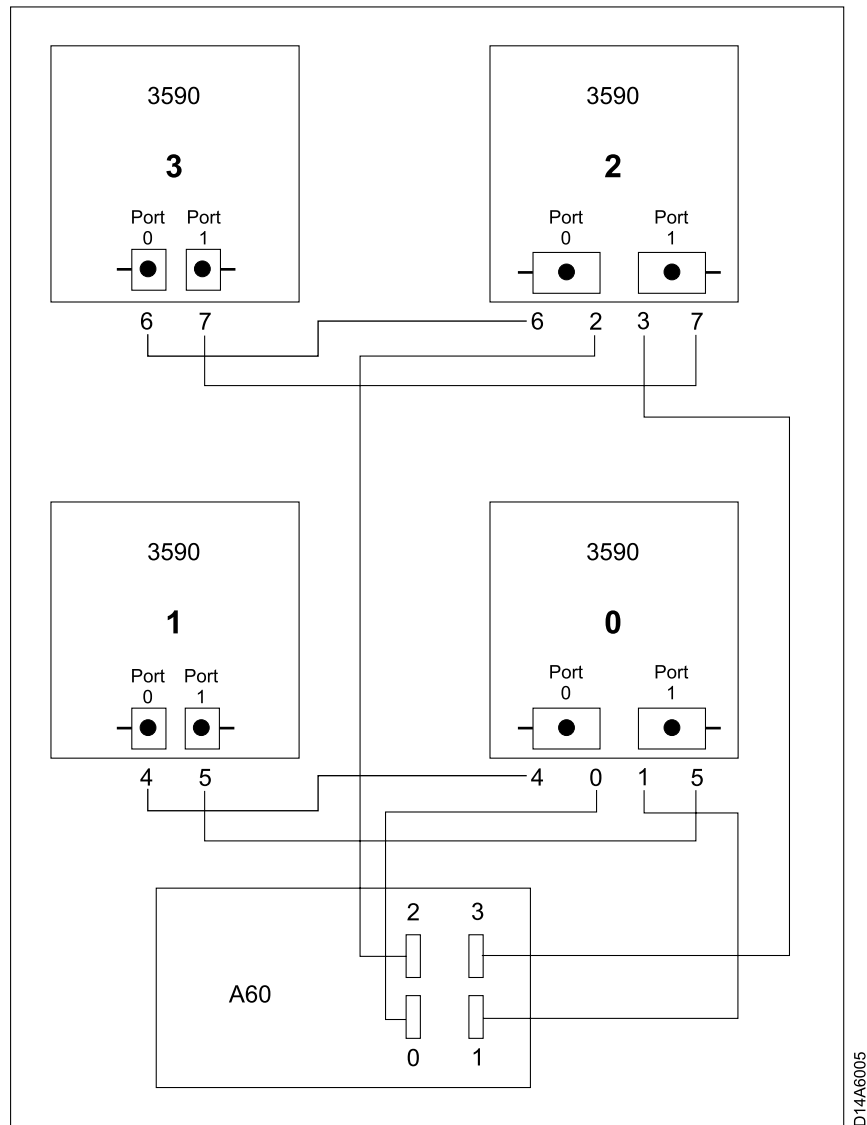
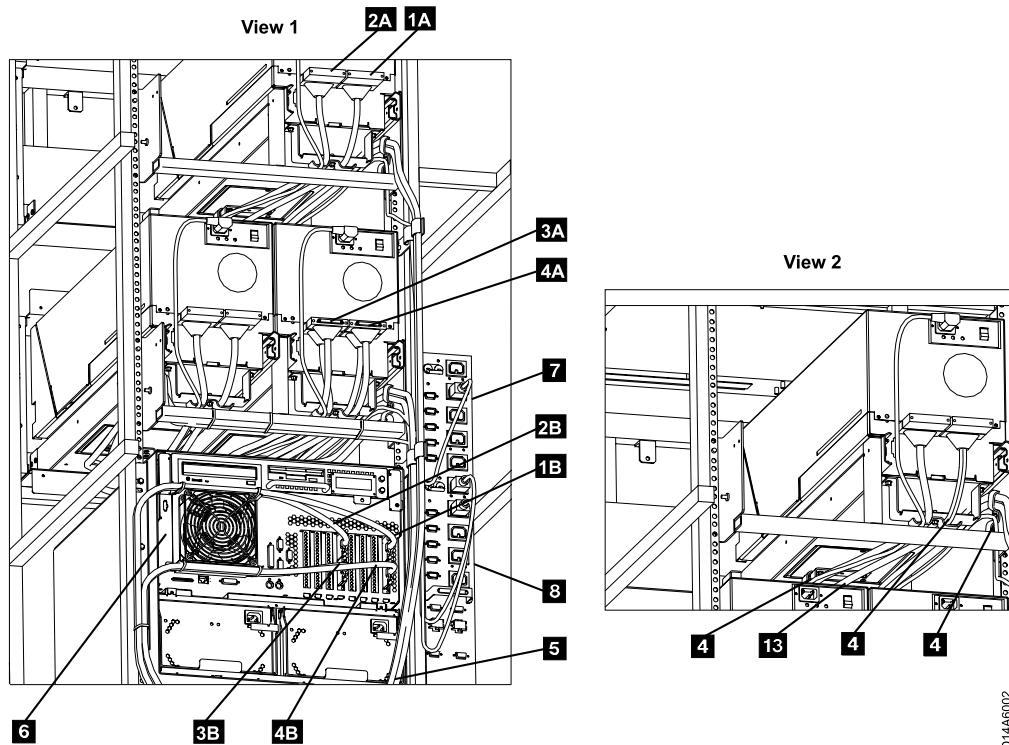

Figure 55. D14 Frame Drive Numbering Convention
Figure 57. A60 Controller SCSI Cabling
1. Notice that the new SCSI cable has a different type of connector on each end, the small connector attaches to the A60 Controller and the large connector attaches to the drive. If your D14 frame contains 1 or 2 drives, you will receive a pair of 3.5 meter control unit to drive cables, P/N 09L5107. Lable one of these cables 0 and the other cable 1 (place the lables on both ends of the cable). Refer to Figure 55 on page 247.
2. If your D14 frame contains 3 or 4 drives, you will receive a second pair of control unit to drive cables. Lable the cables, P/N 05H4650, 2 and 3 (place the lables on both ends of the cable). Refer to Figure 55 on page 247.
- \_\_\_ Step 1. Install the new SCSI cable Labeled #0 . Refer to Figure 55 and Figure 57 on page 250 view 1 **3A** , plugging on the drive end on port 0 (left port) on the lower right drive.
- \_\_\_ Step 2. Install the new SCSI cable Labeled #1. Refer to Figure 55 on page 247 and Figure 57 on page 250 view 1 **4A** plugging on the drive end on port 1 (right port) on the lower right drive.
- \_\_\_ Step 6. Starting at the drive end, place the new SCSI cables in the service loop shown in Figure 57 on page 250, view 2 **13** .
- \_\_\_ Step 7. When the service loop is correct, tighten the three sets of cable clamps, shown in Figure 57 on page 250, view 2 **4** .
- \_\_\_ Step 10. Route the SCSI cables from the drives down the right side of the D14 frame and through the cable clamp, refer to Figure 57 on page 250 **5** , tighten clamp.
- \_\_\_ Step 11. Route the SCSI cables, Labeled 2 and 3 **1B** and **2B** across the top of the front fan, see Figure 57 on page 250.
- \_\_\_ Step 12. Route the SCSI cables, Labeled 0 and 1 **3B** and **4B** across the bottom of the front fan, see Figure 57 on page 250.
**Note:** The PCC is electrically divided in two separate banks with five outlets on each section, refer to Figure 57 on page 250 **7** and **8**. **Make sure that the two power cords coming from the A60 Controller are not plugged into the same bank.**
- \_\_\_ Step 17. The table shows the maximum number of four (4) 3590 drives, however your subsystem may not have the maximum number. Cable according to the table up to the number of 3590 drives that your subsystem contains. Address the 3590 drives according to the table shown in Table 24.